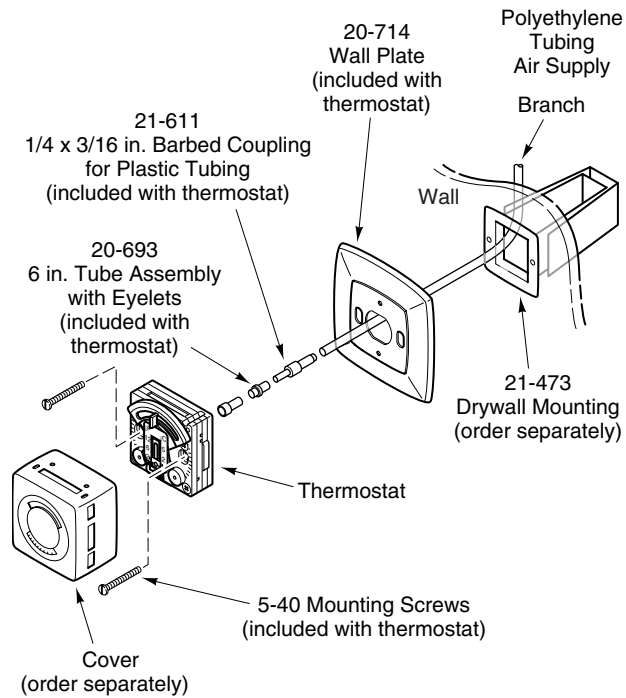

Figure-2 Flush Mounting of Thermostat, Using Drywall Mounting Bracket.
1. Mount the thermostat according to the applicable figure (Figure-2 through Figure-9). See Figure-11 for mounting dimensions.